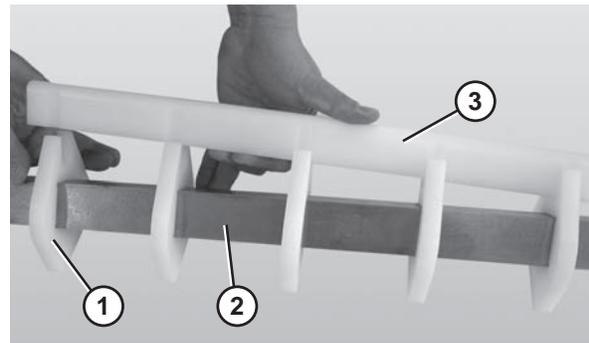

Figure 73
1. Slide the nose bar pucks (Figure 73, item 1) onto the nose bar drive post (Figure 73, item 2).
2. Attach the nose bar wear strip (Figure 73, item 3).